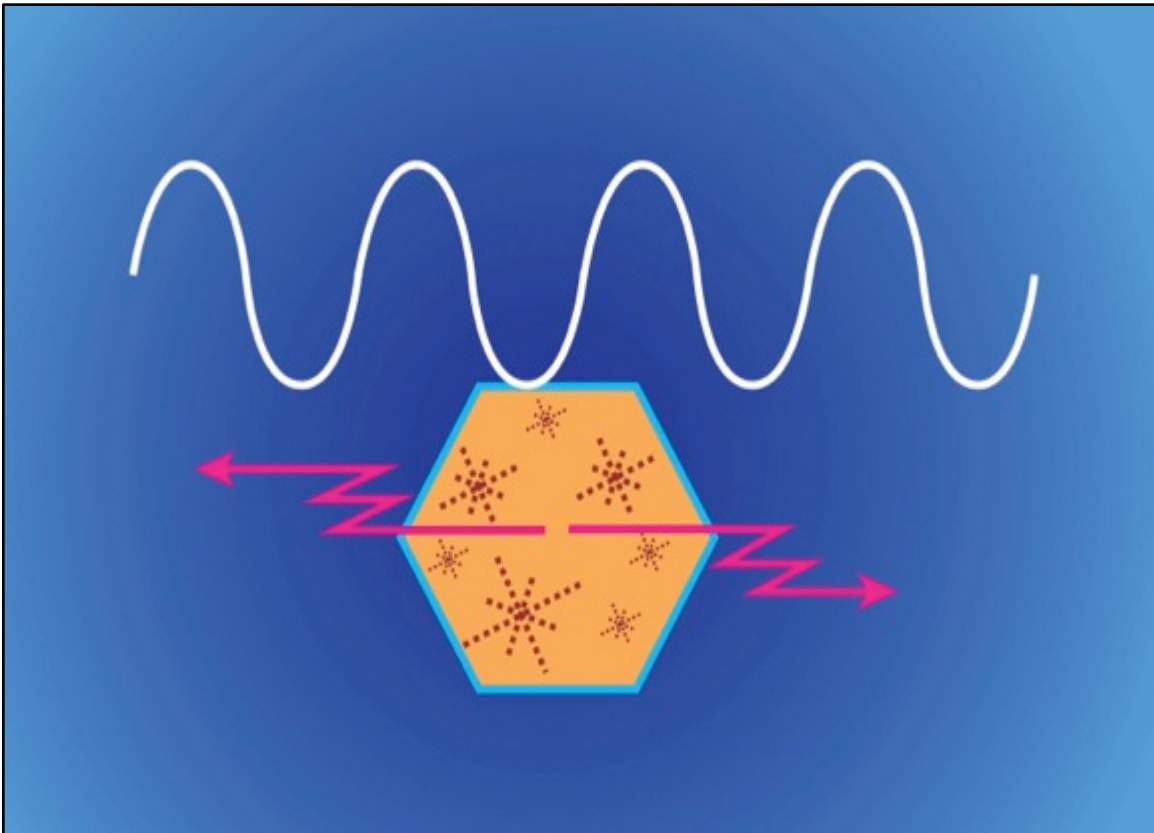

Figure 11. Piezoelectric Effect
- As a starting point, remember that unlike the limestone blocks that were used in a majority of the pyramid, the King's Chamber, Sarcophagus and Grand Gallery were completely constructed of red granite containing silicon-quartz crystals. Specifically, this type of granite contains 55% or more of quartz crystals. Quartz crystals have the ability to *convert* mechanical energy (vibrations) into an electromagnetic energy at the frequency of vibration, and is known as the *Piezoelectric Effect*.²⁰ The word piezoelectric is derived from the Greek word *piezen* meaning to press or squeeze and *piezo*, which is Greek for push (Figure 11). The piezoelectric effect is the ability of certain materials (i.e., quartz crystals) to generate an electric charge in response to applied mechanical stress, such as vibration/pressing²¹